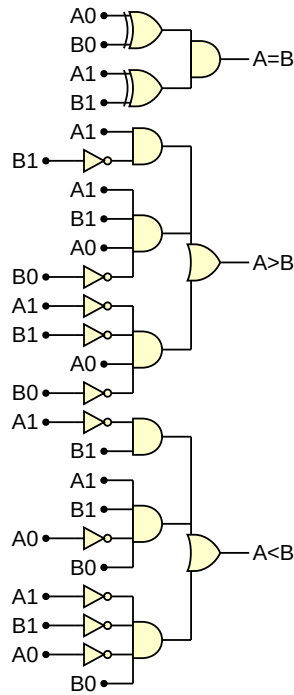

Figure 3: Solution to Exercise 2.
- Using AND, OR, XNOR, and inverter gates, (a) create a 2-bit comparator that yields True if  $A > B$ , (b) True if  $A = B$ , and (c) True if  $A < B$ . For each circuit, assume both  $A$  and  $B$  are 2-bit binary positive numbers. (d) Wrap this all into one circuit with three outputs and 4 inputs. *Hint: use Karnaugh maps for parts (a)-(c) to simplify the gates. See Fig. 3.*